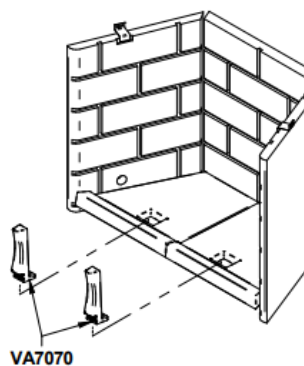

Figure 42.1
1. Remove the Andirons (VA7070) by unscrewing the anchoring bolts. **Figure 42.1**